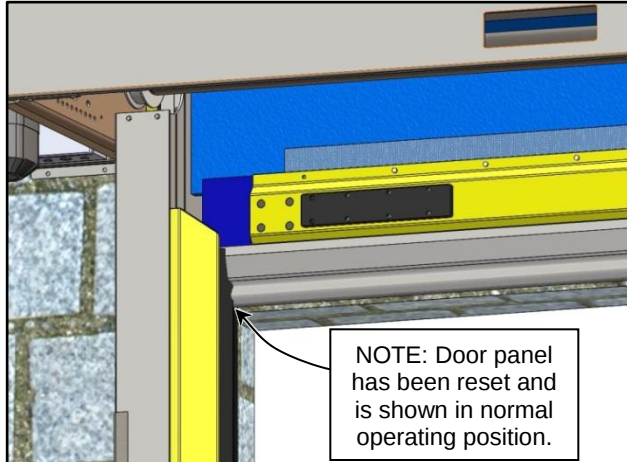

Figure 11
- Then the door panel will guide itself into the channel and resume its normal operation. (See Figure 11)